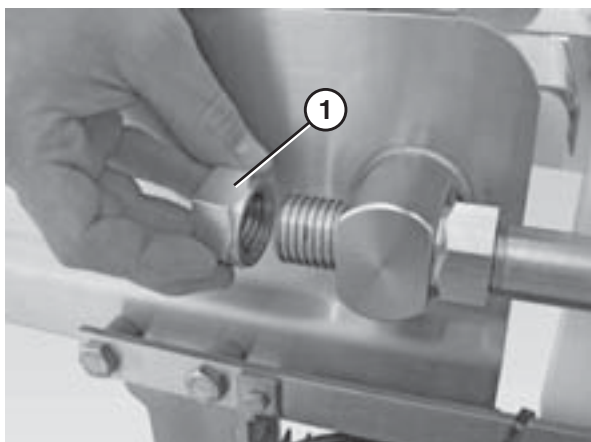

Figure 87
3. Remove the back nuts (Figure 87, item 1) on both discharge nose bar shafts.